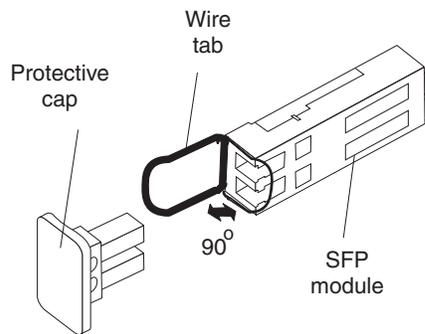

Figure 86. Unlocking the SFP module latch - wire variety
- For SFP modules that contain wire tabs, unlock the SFP module latch by pulling the wire latch outward 90°, as shown in Figure 86.